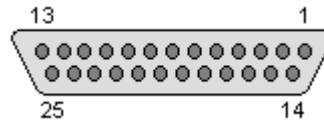

Figure 2-2 DB-25 Female Connector
- Female DB-25 connector with user I/O capability (GPIO) The GPIO contains: RS-232 serial interface, four 3.3/5V logic inputs, and eight 3.3V logic outputs. See Table 2-2 for the pin-out, Table 2-3 for the GPIO electrical specifications, and Figure 2-2 for the physical pin view.